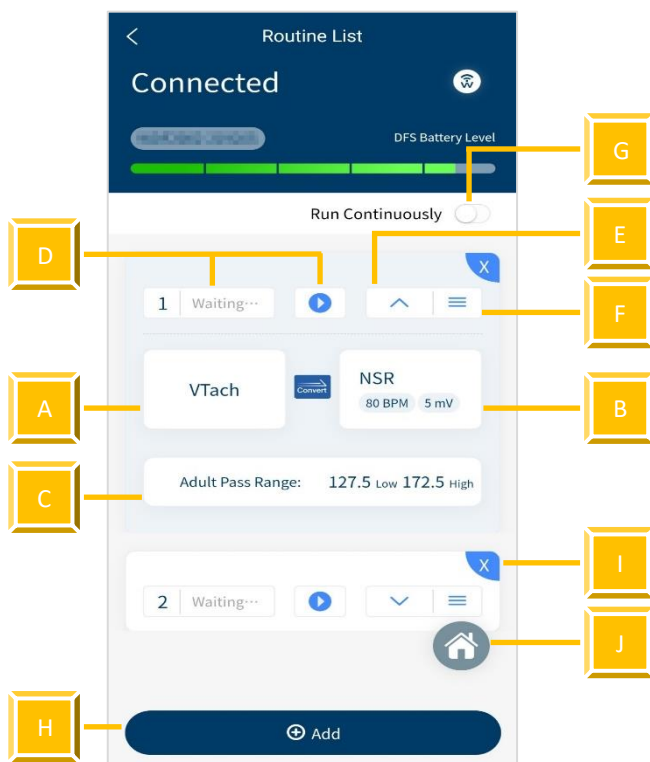

Figure 12: Routine List Interface
1. Click the Routine List on the home screen and click the Add button, Figure 12 will show on the screen.